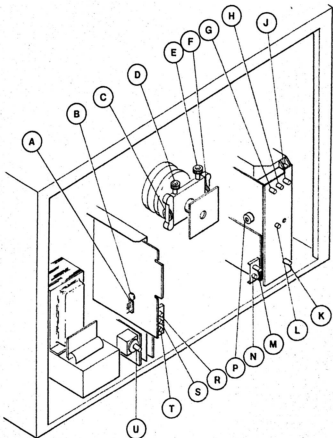

FIGURE 7. TELEVISION ADJUSTMENTS
HORIZONTAL AND VERTICAL ADJUSTMENTS (Figure 7)
3. Adjust the red drive (item R on Figure 7) and screen controls (G) until the red car and goal are an acceptable brightness.